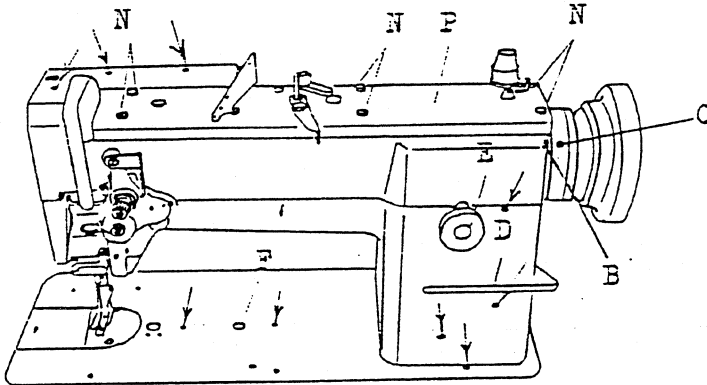
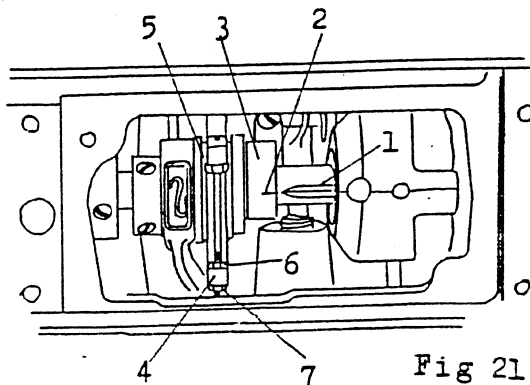

Fig. 1
Fig 21
When starting the machine initially and after kept away for a long time without using at all, oil sufficiently to respective parts and each of the place indicated by by allows in Fig 1,2,3 & 4.
1. Align the arm-mark(B.Fig.1) with the pulley-mark (C.Fig.1).
To reverse stitching, press down the lever(D, Fig 1) as far as it will go.
Turn the stitch length adjustable dial(E, Fig 1), by pressing down the lever(D, Fig 1) slightly, and then set the desired dial number just above.
1. Depress the button(F, Fig 1) in the bed plate of the machine and turning the machine pulley strongly, a safety clutch will be disengaged.
4. After completion of the adjustment, depress the button(F, Fig 1) in the bed plate of the machine, turning the machine pulley by your hand, a safety clutch mechanism will normally be re-engaged.
When adjustment is required, use the following procedure to change the position of the cam(3, Fig 21):
1. Loosen the screw(N, Fig 1) and remove the arm top cover(P, Fig 1).
2. Normally put the reference line(2, Fig 21) of the cam(3, Fig 21) on the V ditch(1, Fig 21) of the arm shaft.
3. Turn the machine pulley to place the needle at lmm up from its lowest point and moving the reverse stitching lever(D, Fig 1) up and down, turn the cam(3, Fig 21) and set this at the point both the needle and the feeder rest.
Incorrect clearance between the fork(4, Fig 21) of feed forked connection and feed fork collar(5, Fig 21) will bring irregular stitch length or overheating, etc.
1. To increase the clearance, loosen the screw (6, Fig 21) and turn the screw(7, Fig 21) clockwise.
To decrease the clearance, loosen the screw (7, Fig 21) and turn the screw(6, Fig 21) counter-clockwise.